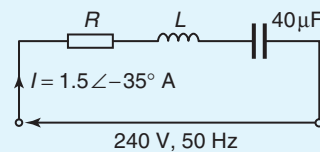

Figure 15.19
2. Find the values of resistance R and inductance L in the circuit of Fig. 15.19.